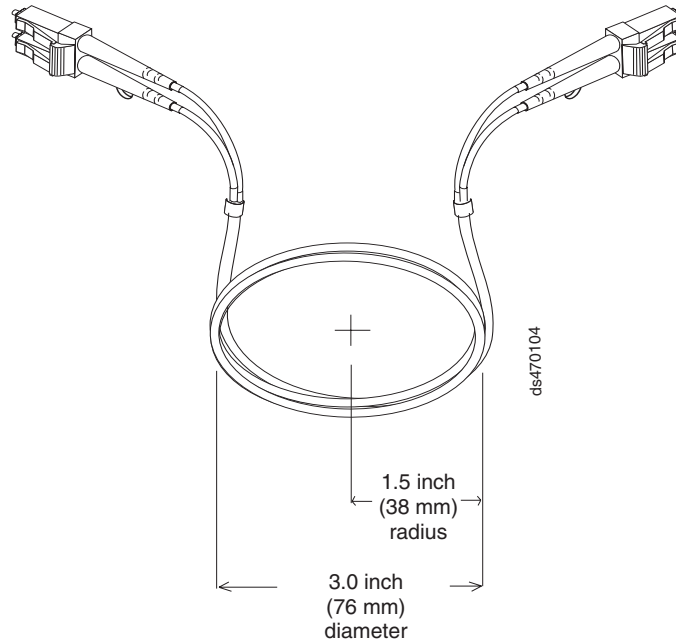

Figure 27. Recommended bending and looping specifications for fibre-optic cables
- When storing excess or unused fibre-optic cables, do not bend the cables to a diameter of less than 76 mm (3 in.), or a radius less than 38 mm (1.5 in.) or wrap them around themselves. See Figure 27 on page 43.